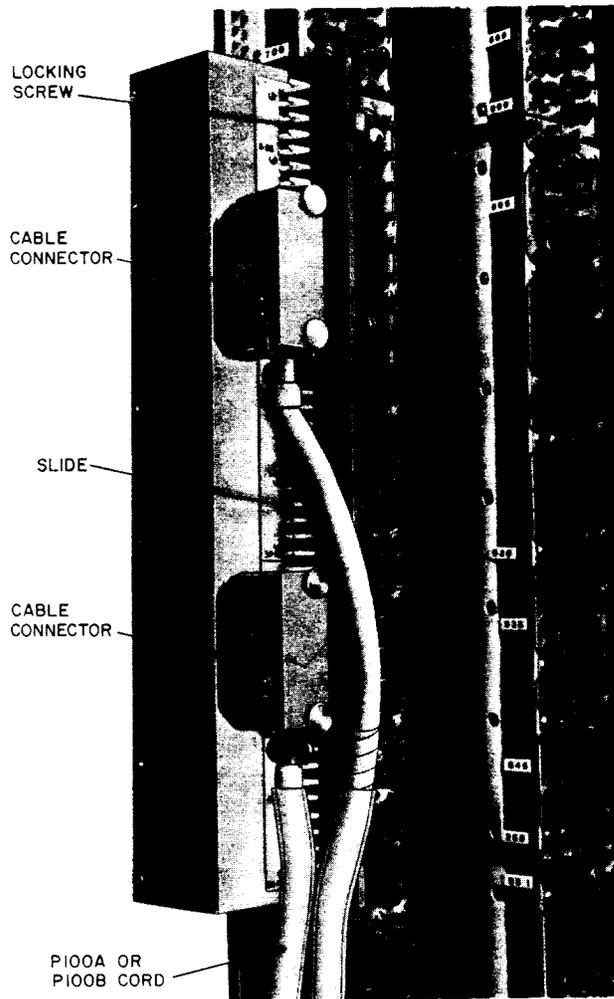

Fig. 1—C Test Connectors on 300-Type Connector
3.01 The front and back views of the C test connector are shown in Fig. 1 and 2. The connector consists of a plastic baseplate containing an assembly of 100 spring-mounted plungers (50 pairs). The plungers are arranged to make positive contact with the cable pair test buttons located on the left side of 300-type connectors.
| C Test Connector | Used to provide access to 50 cable pairs. | See Fig. 1 and 2 and paragraph 3.01. |